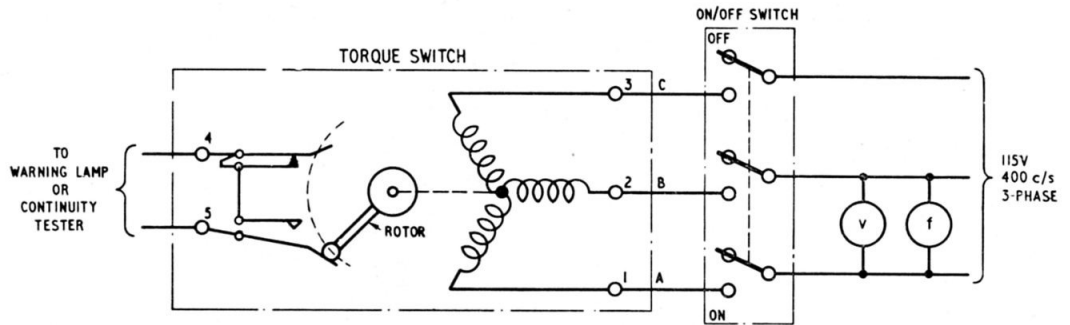

Fig. 4. Test circuit diagram
26. Connect the switch and meters to the inverter as shown in fig. 4, and the inverter to a 28-volt d.c. supply. ◀Care should be taken to ensure that the test rig is not subject to vibration during testing. It is important that the ambient temperature should be 20 ± 5 deg. C; at temperatures outside these limits, the operating characteristics of the switch will vary from those given below. ▶